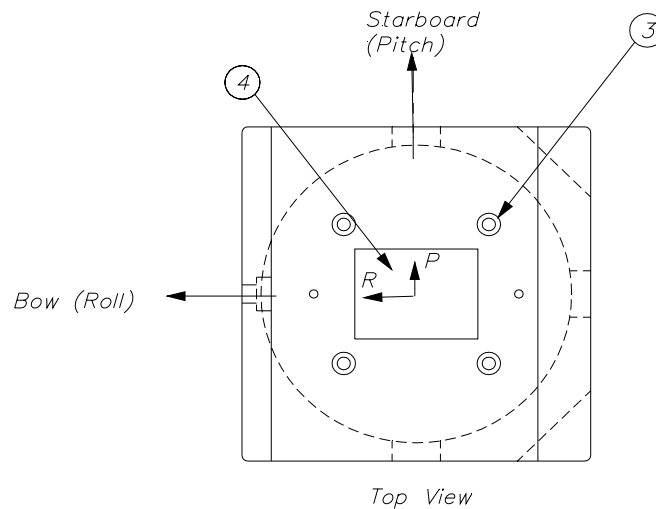

Figure 7 Sticker (4) shall indicate actual mounting orientation of MRU within bracket
8. Apply the sticker (4) onto the bracket according to the actual mounting direction of the MRU, as shown in Figure 7. In this way, the actual mounting direction is identified in case the unit is to be exchanged or removed temporarily.